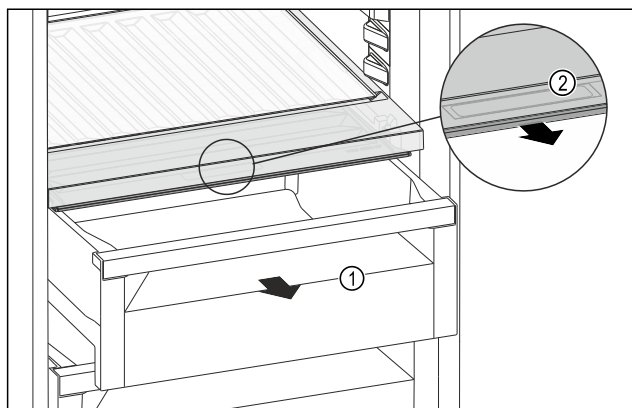

Fig. 147
- Pull out the drawer Fig. 147 (1).
- Grasp the recessed grip Fig. 147 (2) on the compartment lid and pull the compartment lid forwards at the same time.